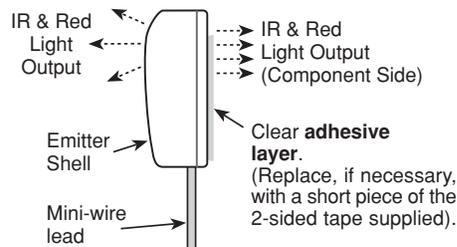

Fig. 2
- Each emitter has a clear adhesive layer on the bottom flat surface of the shell. The rounded side faces the user and emits visible red light when a command is sent (**Fig. 2**).